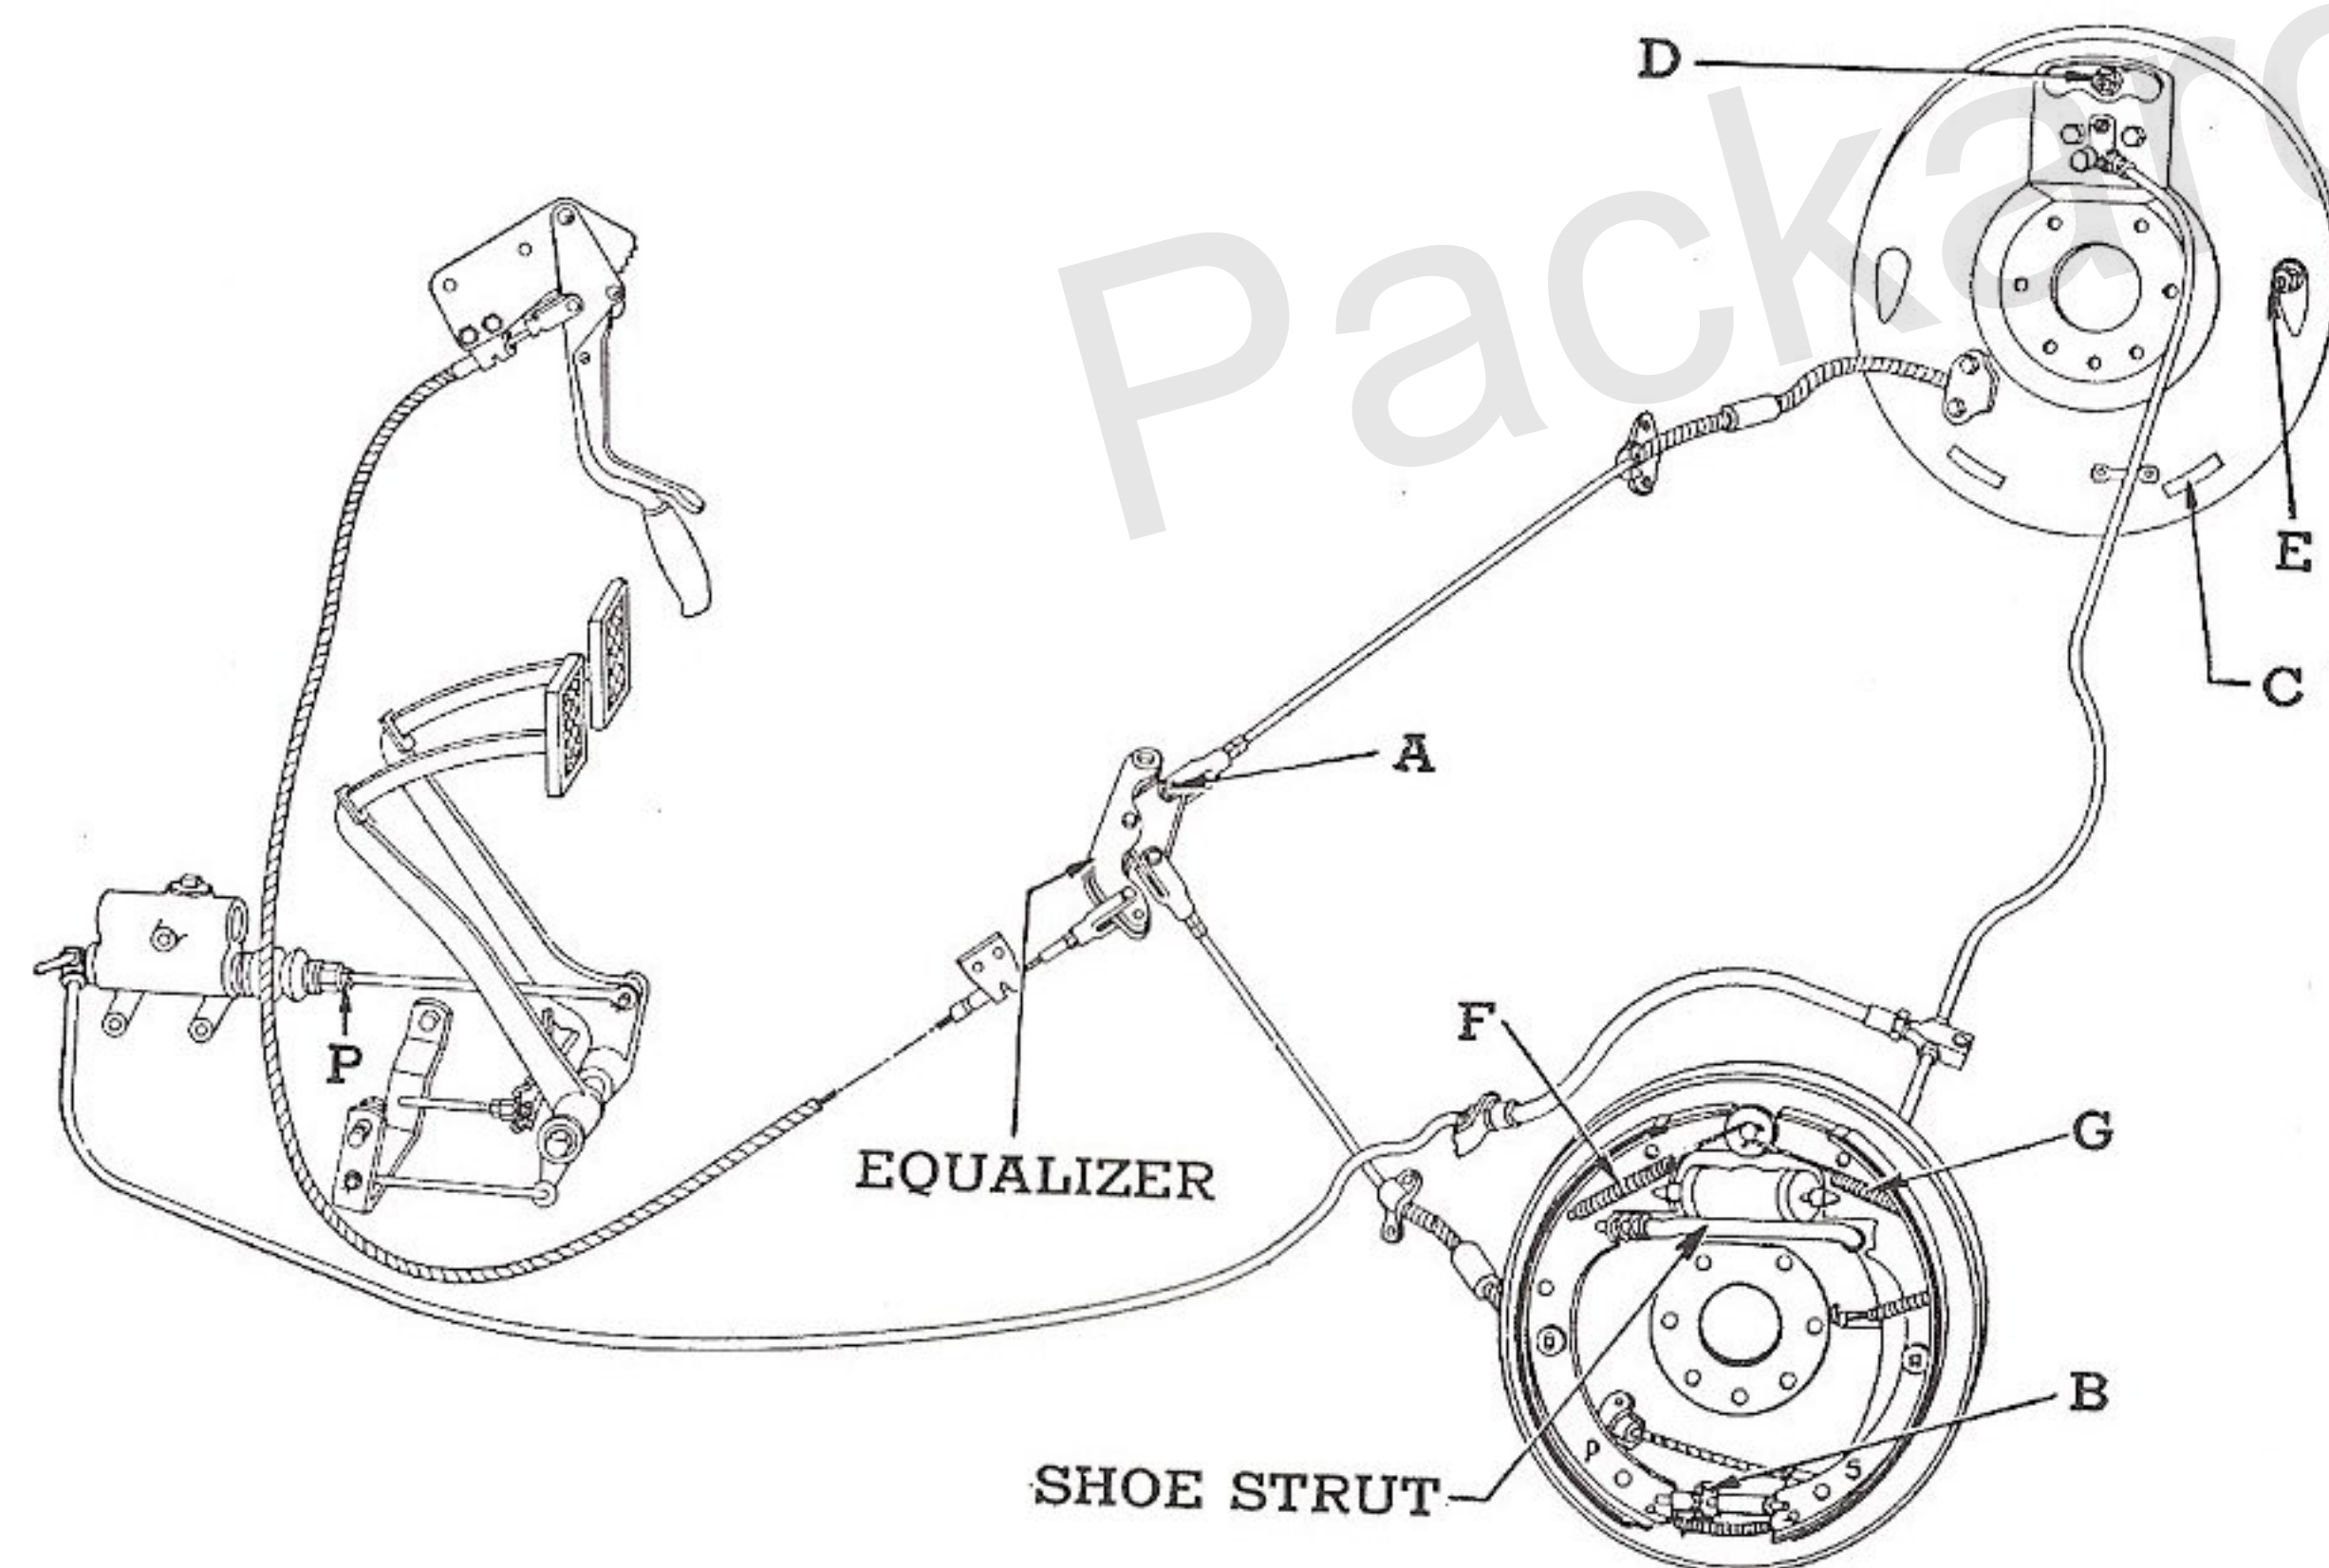

Fig. 28—Chassis Brake Diagram. Clearance Adjuster is Shown at "B," which is Accessible Through "C." Anchor Pin is Shown at "D" and Eccentric at "E"
1. Jack up all 4 corners of car and remove wheels. Place hand brake lever in fully released position. If doubtful regarding full release of hand brake, remove either one of the hand brake cable clevis pins "A," Fig. 28. Remove adjusting hole covers "C" from backing plates and covers from drum ports.
brake, remove either one of the clevis pins "A," Fig. 28. Remove adjusting hole covers "C" from each backing plate and also from the drum port at each wheel.
a. Insert a .010 inch feeler blade between lining and drum at lower end of secondary shoe (rear shoe) and turn eccentric "E," Fig. 28, towards front of car until feeler is just firmly gripped. Tighten lock nut on eccentric.
The master cylinder primary cup must clear the by-pass port when the piston is in released position. If cup does not clear the by-pass port, the compensating action of the master cylinder will be destroyed and the brakes will drag after several applications. To prevent this trouble the brake pedal push rod should be adjusted to provide $\frac{1}{4}$ " free initial travel of the pedal. Adjustment is by means of the push-rod adjusting nut "P" shown in Fig. 28.